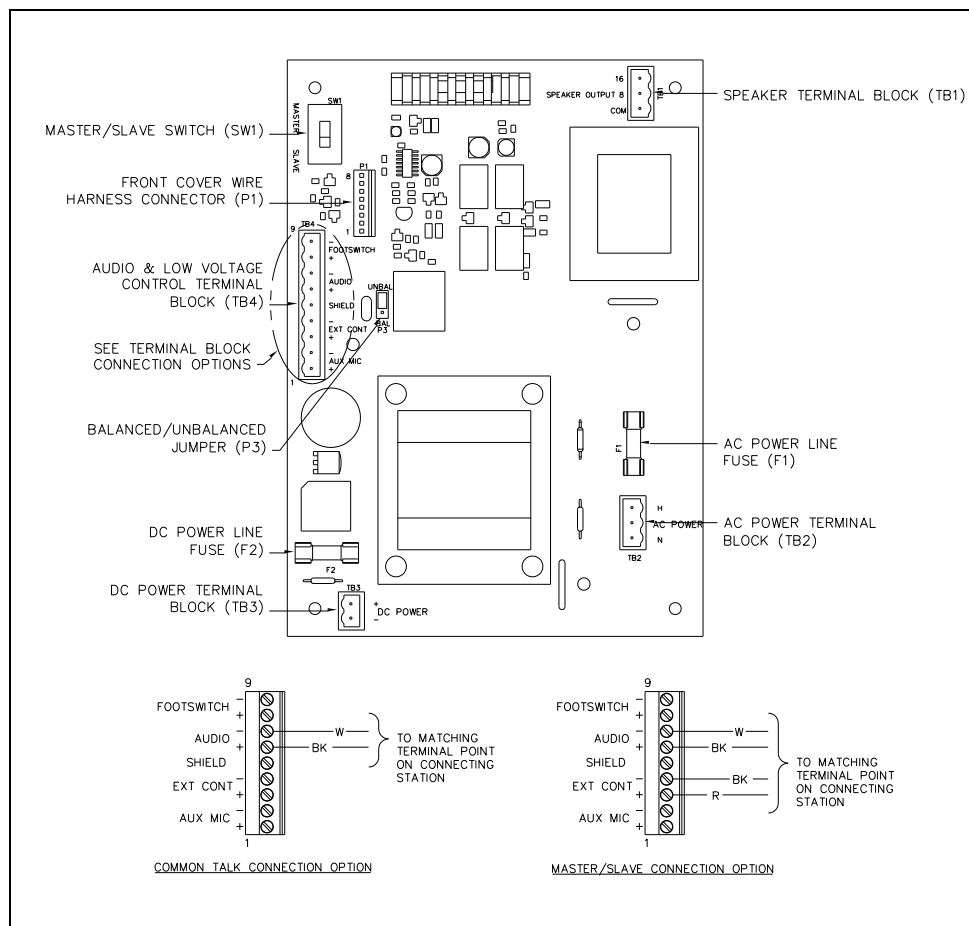

Figure 4. RigCom Station PCBA
4. Attach the wires to the terminal blocks located on the PCBA within the enclosure (see Figure 4 and the Field Wiring Terminations section for connection points and descriptions).
Plug the front cover wire harness connector in at P1 (see Figure 4).